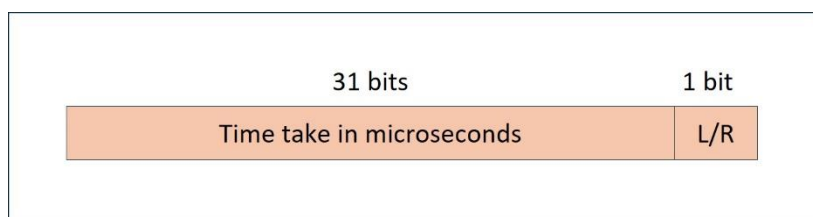

Figure 1.3
- (b) The remaining bits of the number represent time taken in nanoseconds for the radar sensor to receive responses from objects (both stationary and mobile). This is indicated in Figure 1.3.